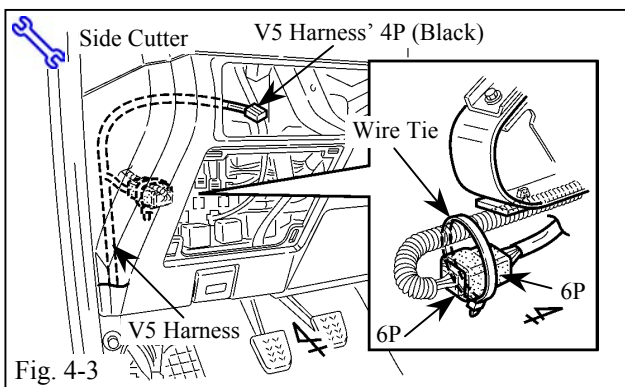

Fig. 4-3
- (c) Secure the 6P connectors to the vehicle harness with one wire tie, near the vehicle harness' clamp. (Fig. 4-3)